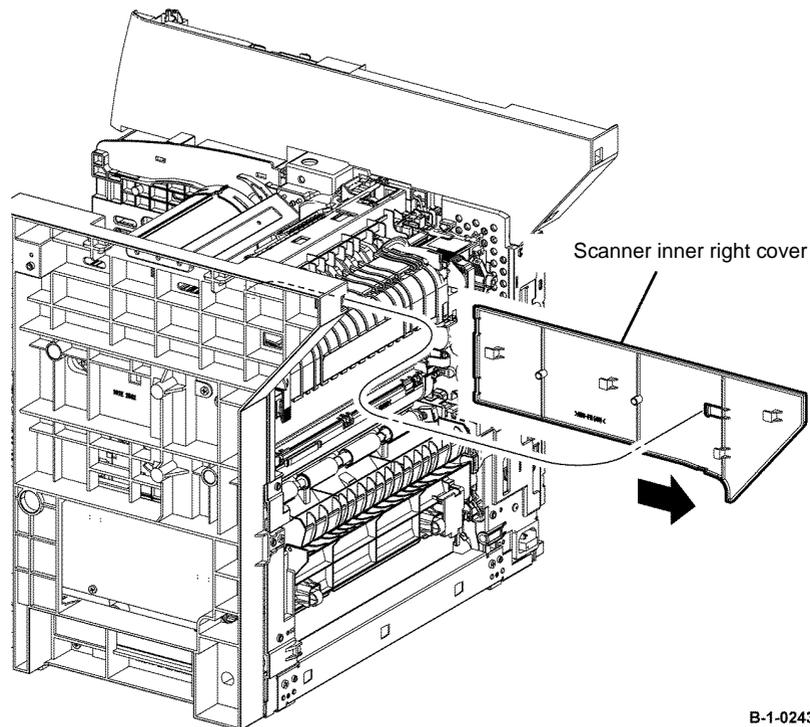

Figure 1 Scanner inner right cover removal
6. Release the hooks that fix the scanner inner right cover, then slide it out of the printer, Figure 1.